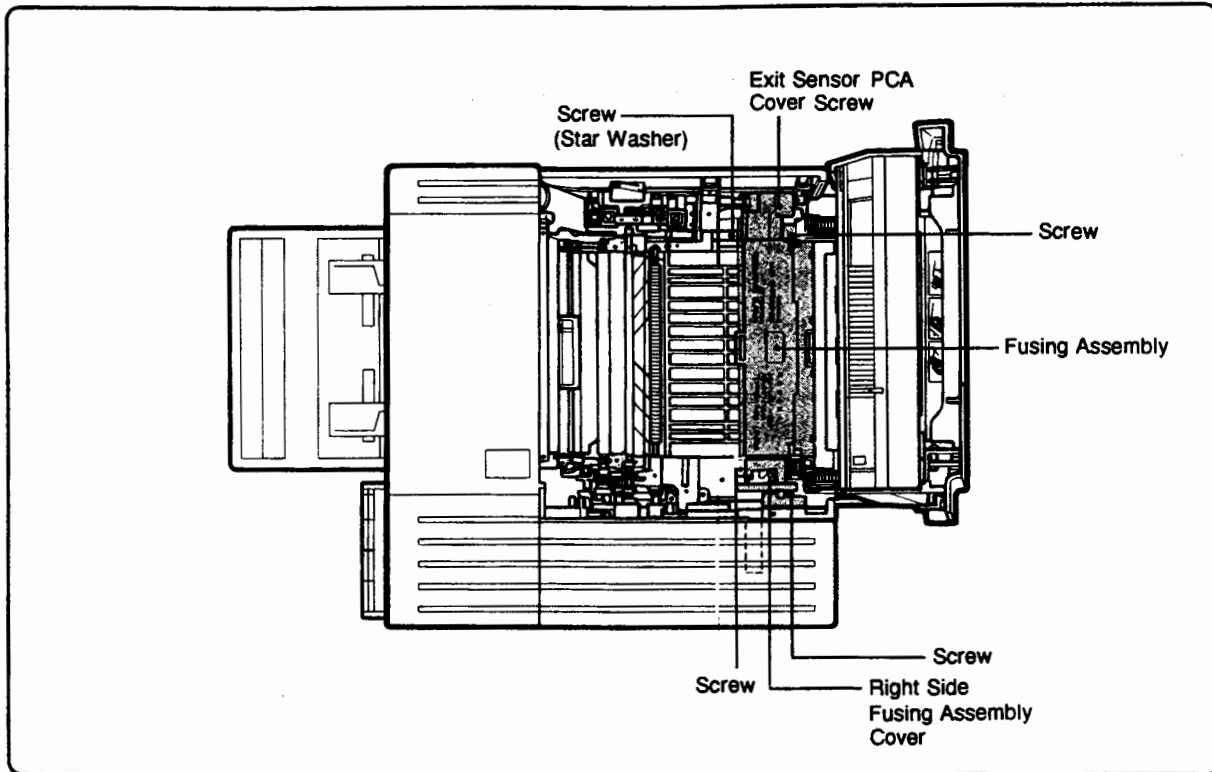
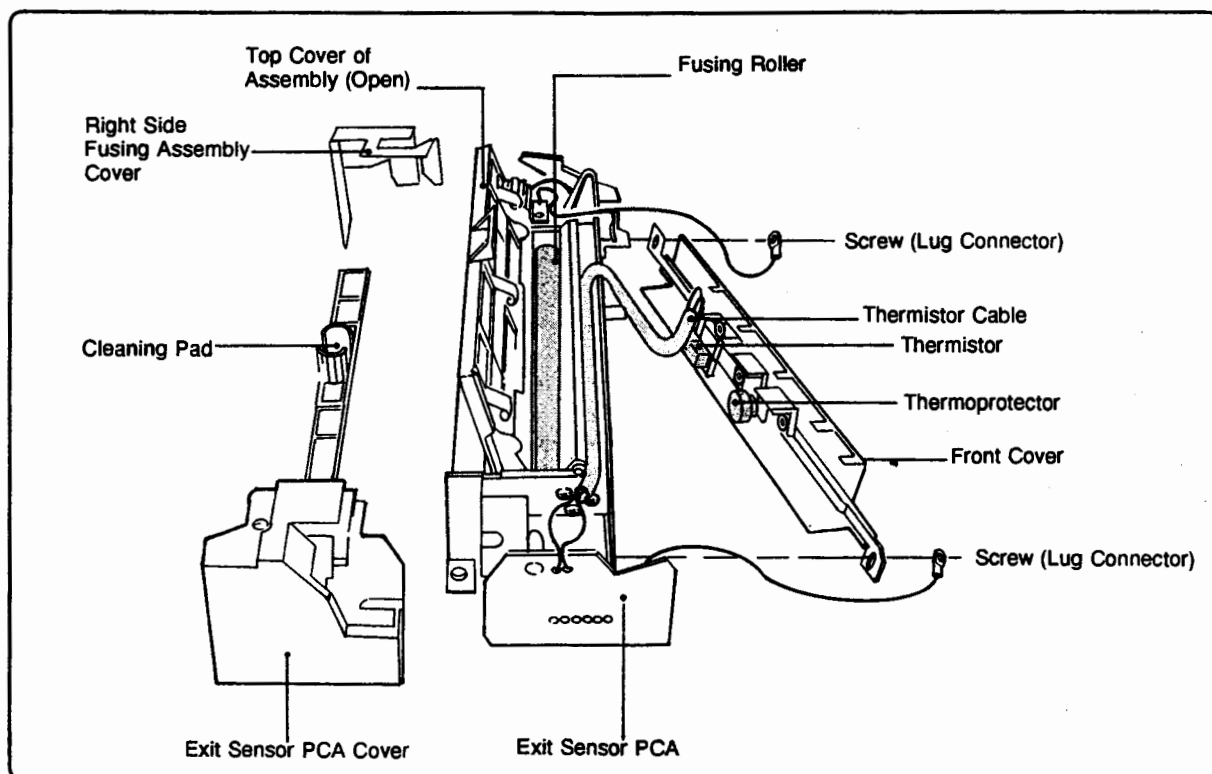

Figure 6-35. Fusing Assembly
Figure 6-36. Fusing Assembly Components
1. Open the Top Cover Assembly and remove the silver-colored screws (4) that secure the Fusing Assembly (see Figure 6-35). Be sure to note the location of the screw with the star washer.
2. Remove the Exit Sensor PCA cover (1) (see Figure 6-35).
3. Remove the screw (1) securing the right side Fusing Assembly cover (see Figure 6-35), and slide the cover up and out (the plastic cover will flex around the lever arm on the assembly).
5. Remove the screws (2) securing the Fusing Assembly front cover to the assembly and, to avoid damage to the Thermistor spring mount, carefully move the cover *slightly* away from the Fusing Assembly. Be careful not to lose the wavy washers.
6. Remove the screw (1) securing the Thermistor and lift it off its mount (see Figure 6-36).
7. Remove the screws (2) securing the Exit Sensor PCA, carefully remove it from its two positioning tabs (see Figure 6-36), and remove it and the Thermistor from the Fusing Assembly.
Upon reinstallation, refer to Figure 6-36 for proper routing of the Thermistor cable.
2. Remove the screws (2) that secure the Thermoprotector (see Figure 6-36) and lift it out.